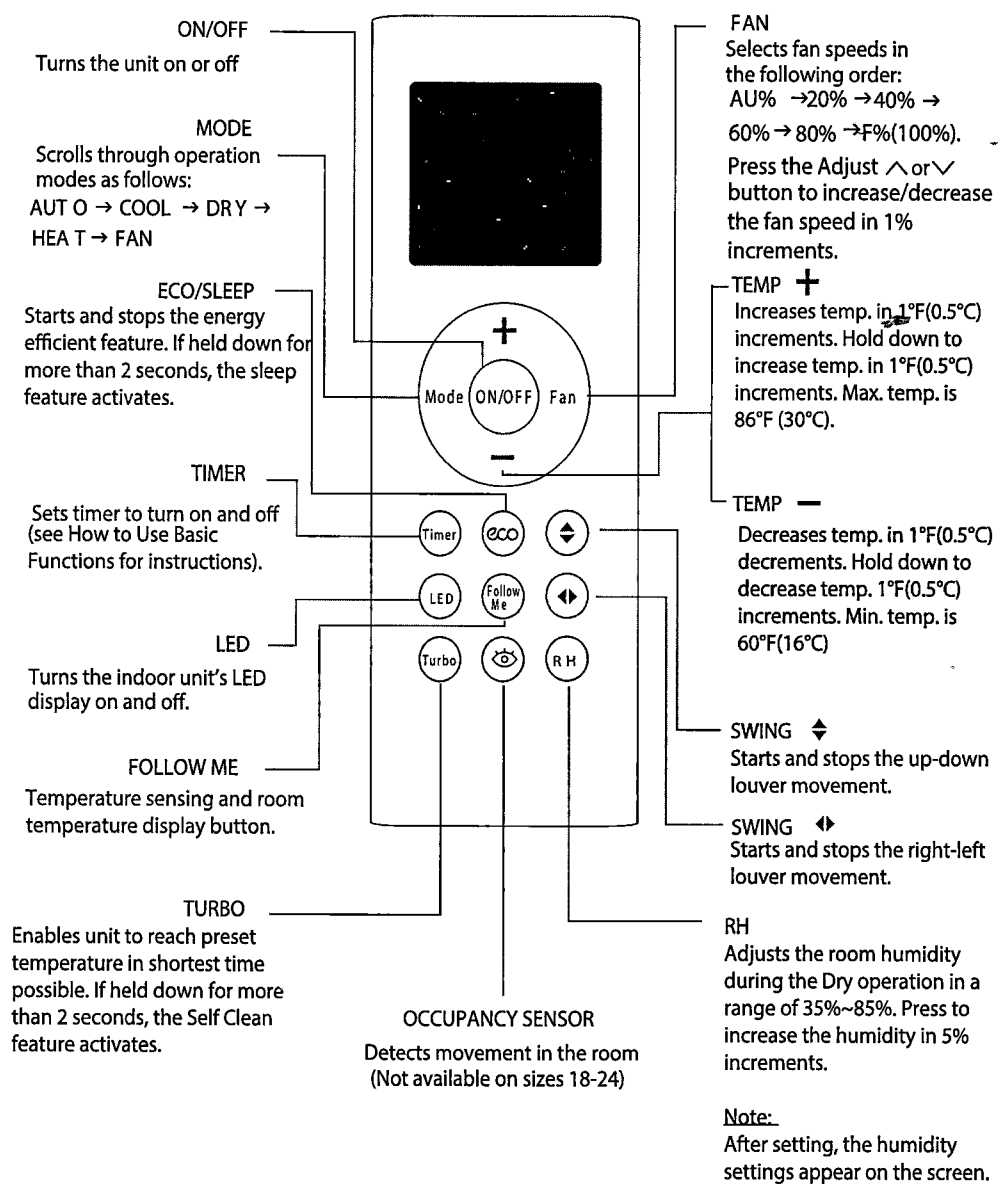

Fig. 3 —Remote Controller
6. Set the airflow direction. When the unit is turned on, the louvers default to the cooling or heating position. The user can adjust the louver position or initiate continuous louver movement by pressing UP-DOWN Louver SWING. See Fig. 3 — on page 4).